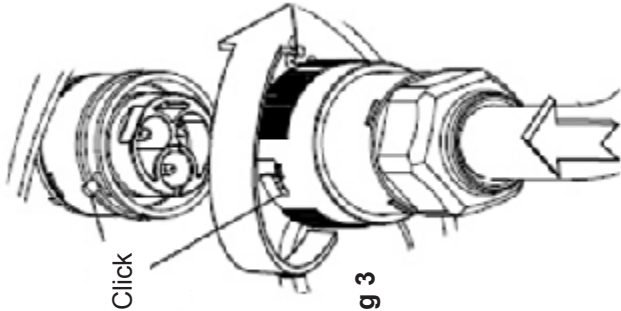

Fig 3
- 5. Connect the cable to the bottom of the luminaire and twist the housing until it clicks into place. (Fig 3).